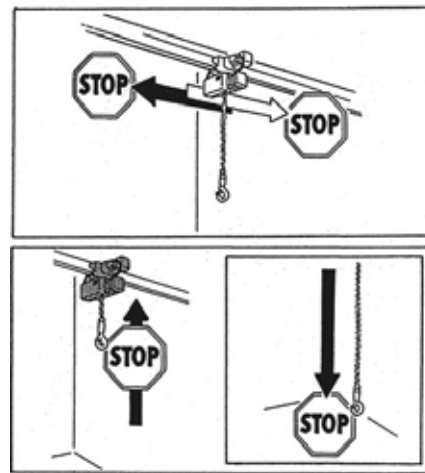

fig.45
14. Check the efficiency of the travel and raise/lower limit switches, if present, by making the hoist perform an automatic stop in all directions without a load. (fig.45)